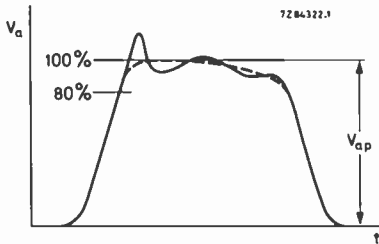

Fig. 2 Voltage pulse.
- dV_a/dt or $\Delta V_a/\Delta t_{rV}$ Unless otherwise stated the rate of rise of voltage dV_a/dt is defined by the steepest tangent to the leading edge of the voltage pulse above 80% of the smooth peak value (see Fig. 2).